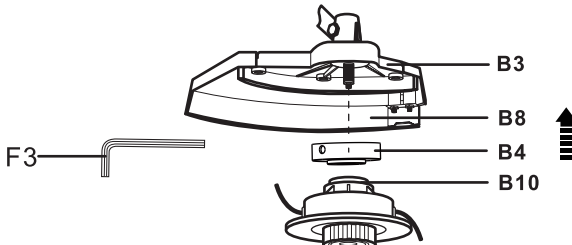

Fig. 6
- Insert the Hex key 4 mm (F3) into the hole to lock the spindle.
- Screw the trimmer head (B10) on the spindle (B2) anti-clockwise securely. (See Fig. 6)
- Remove the Hex key 4 mm (F3).